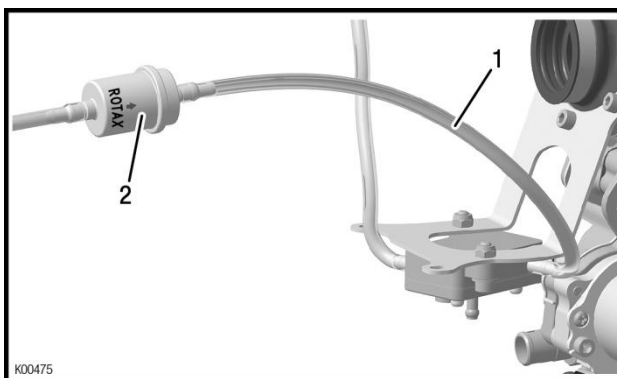

Fig. 3
- ➔ The larger fuel hose (pos. 1) should be connected to the fuel filter (pos. 2) and furthermore to the fuel tank. See Fig. 3.